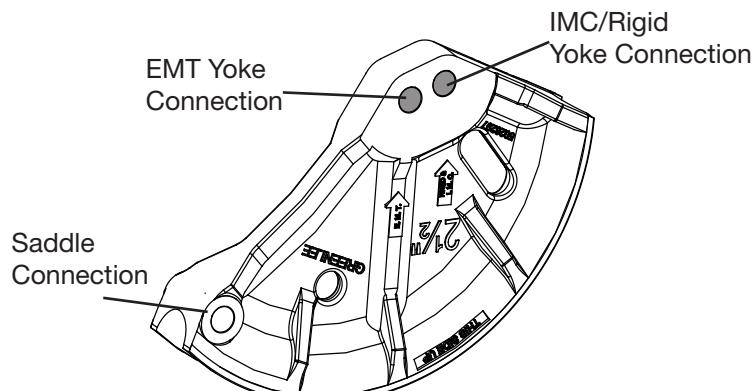

Figure 13
4. Lower the piston and yoke until it is aligned with the EMT or IMC/Rigid yoke connection on the shoe, then pin in place. (Fig. 13)